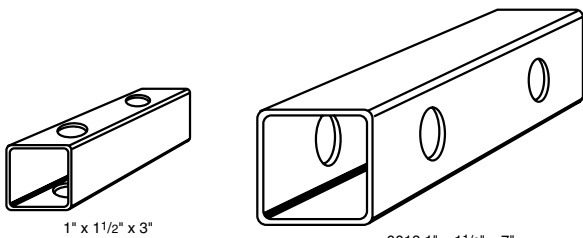

Figure 7
- ① Locate Lift Angle Spacers from the board mounting kit (see Fig. 7).
- ② 48" Glass boards require two more spacers at the goal mount in addition to the Lift Angle spacers. If installing 48" Glass bank, locate 7" Glass Bank Spacers.
- ③ Place Lift Angle Spacers under Lift Angle and bolt through spacer when installing the Lift Angle.
- ④ Place 7" Glass Bank Spacers between the Height Adjuster's goal mounting plate and the Glass Backboard. Bolt through the spacers for direct goal attachment.